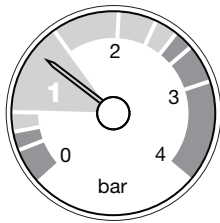

Fig. 1
2. With the system cold and the boiler not operating the pressure should be at least 0.5 bar. During operation the pressure should not exceed 2.5 bar, and will normally be between 1.0 and 1.5 (Fig. 1).